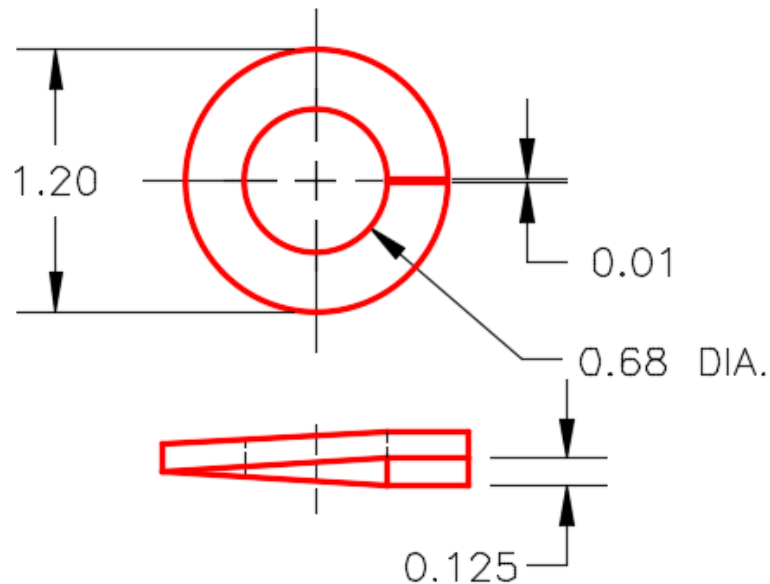

Figure Step 8A
Step 8 Draw a solid model of the lock washer on layer: Solid 4 using the dimensioned drawing as a reference. Draw a center line in the model. (Figure Step 8A, 8B, and 8C)